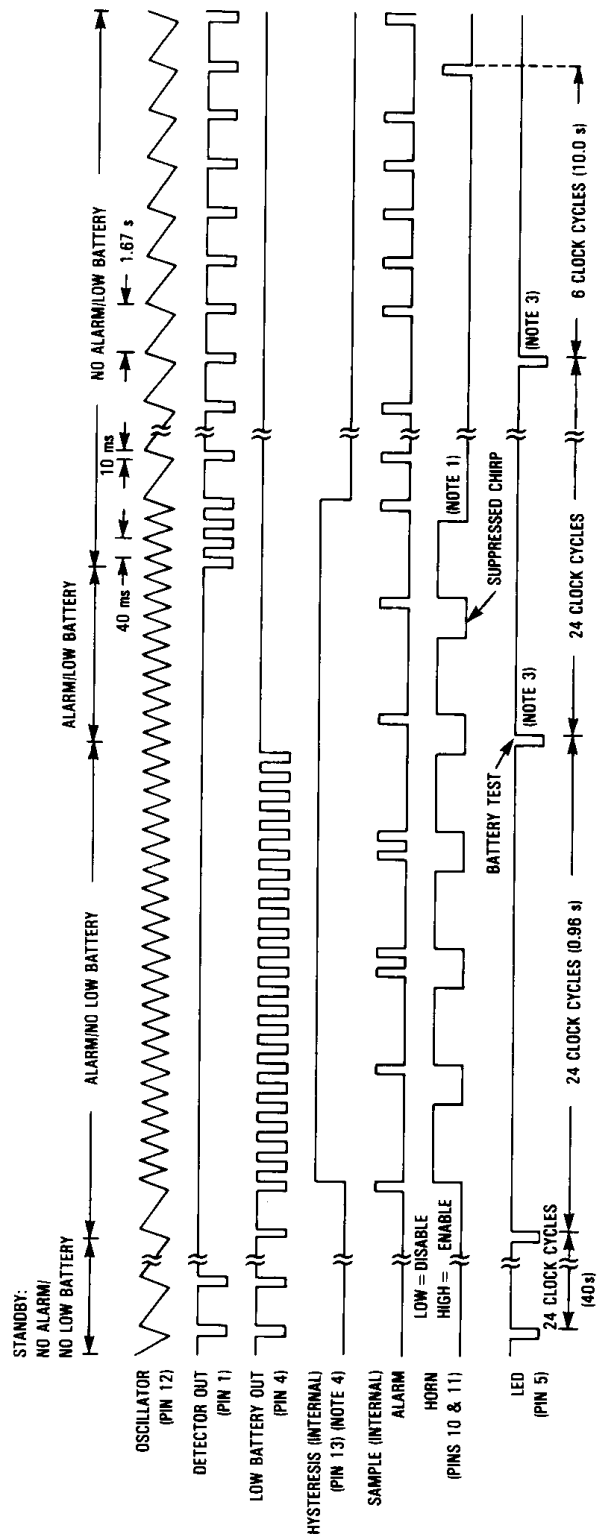

Figure 4. Timing Diagram
**AC ELECTRICAL CHARACTERISTICS** ( $T_A = 25^\circ\text{C}$ ,  $V_{DD} = 9.0\text{ V}$ ,  $C_x = 0.10\text{ }\mu\text{F}$ ,  $R_x = 8.20\text{ M}\Omega$ , See Figure 4)